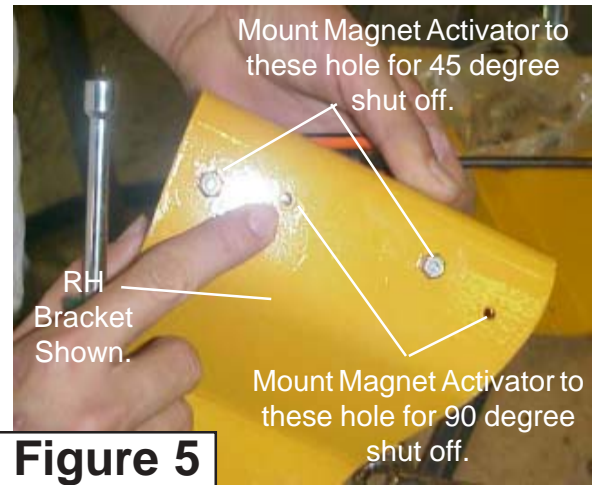

Figure 5
2. Assemble Magnetic Switch Activators. This magnetic switch activator has a magnet inside and a cover that must be installed (See Figure 4). There are brackets that these bolt to. With dual wings there is a LH and RH bracket. Bolt the Magnetic activators to the brackets (See Figure 5) LH Bracket Shown). Note there are two sets of mounting holes. In figure 5 the set that have the bolts through them is used to shut wing off at 45 degree up. If the other set of holes are used wing mower will shut off at 90 degrees up. The 45 degree setting is recommended for standard applications.